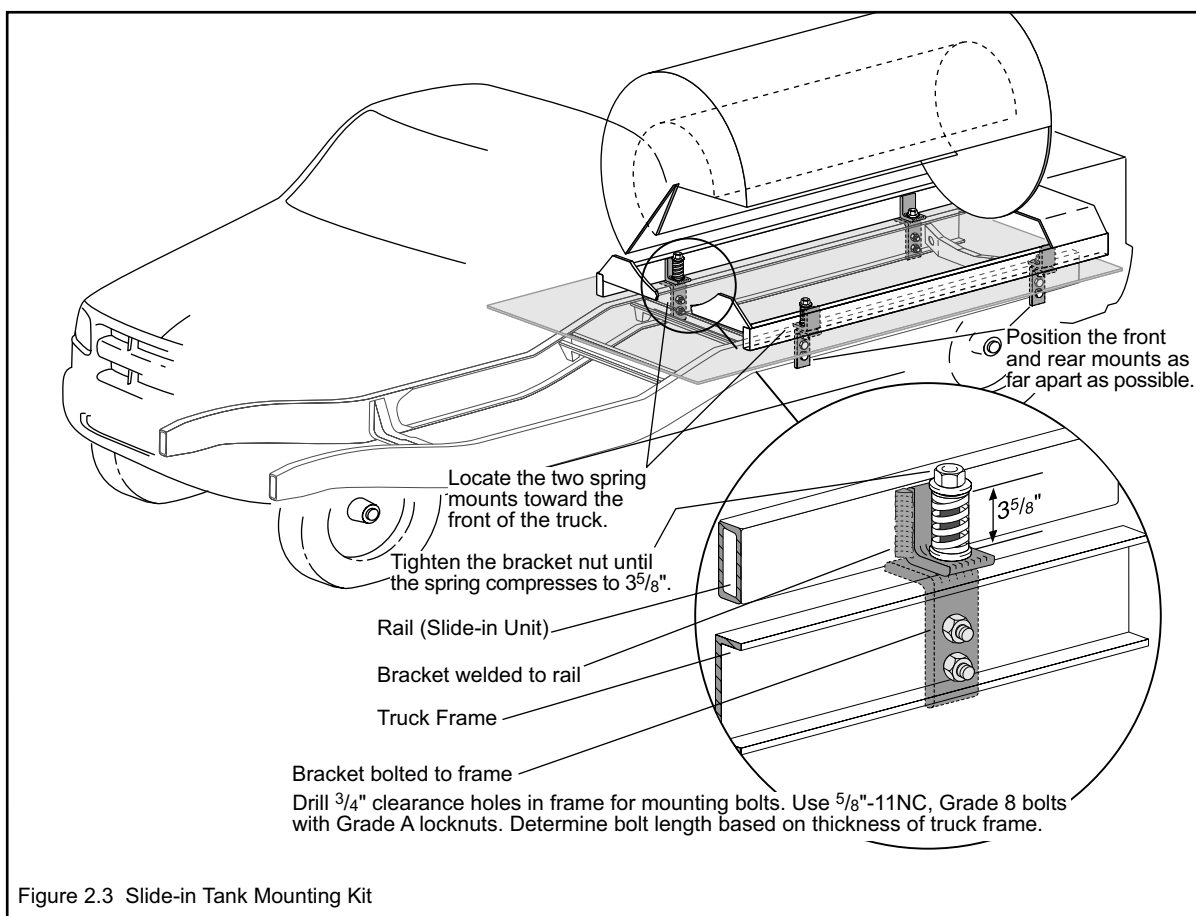

Figure 2.3 Slide-in Tank Mounting Kit
Following all relevant precautions, use the procedure below, while referring to Figure 2.3, to install the mounting kit:
- Bolt the lower brackets to the truck frame using  $\frac{5}{8}$ "-11NC Grade 8 bolts. These bolts are not included in the mounting kit and must be purchased in the correct length for your specific installation. Use  $\frac{5}{8}$ "-11NC crown-lock lock nuts with these bolts. Fasten the brackets to the outside of the truck frame rails with the short leg of the bracket pointing outward (Figure 2.3).